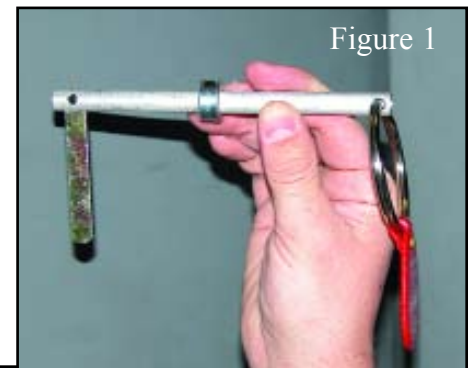

Figure 1
- Remove key (see Figure 1) from control box cover and insert the key into the key hole, located near the top of the door.